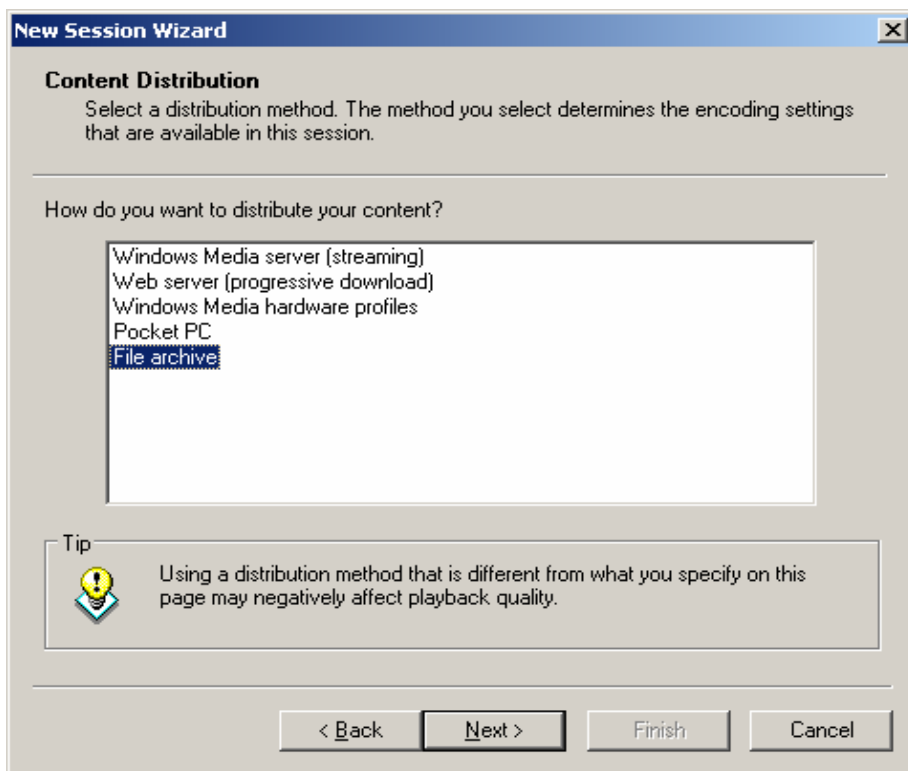

Figure 5.9 Selecting distribution method
- Select “File archive” Content Distribution method **Fig 5.9**